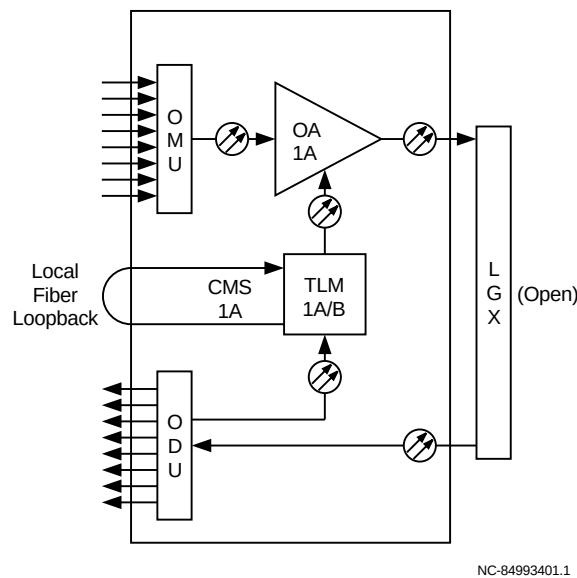
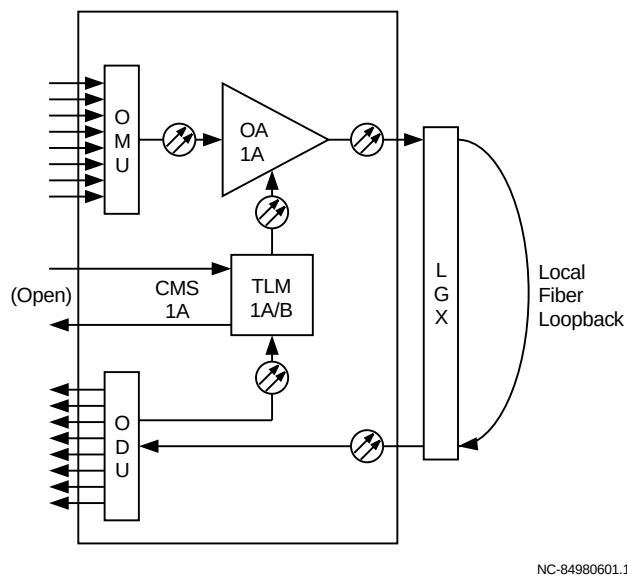
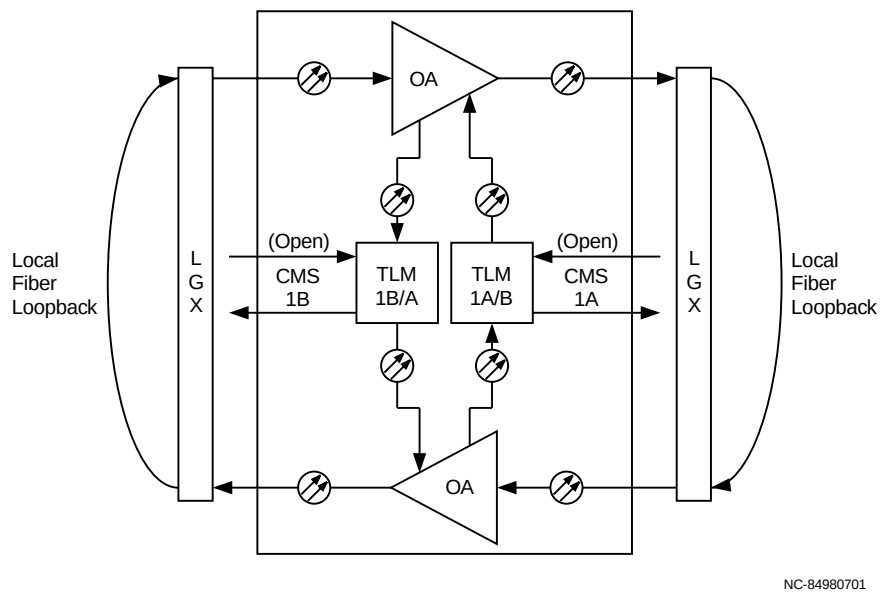

Figure 9-5. Local SUPR Self-Test (End Terminal with Two OA Circuit Packs)
Figure 9-6. Local SUPR Self-Test (End Terminal With a Single OA Circuit Pack)
Figure 9-7. Local SUPR Self-Test (Repeater)
- **SUPR:** The local (SUPR) test verifies the transmission path between the Telemetry Controller (TLM) circuit packs and the Optical Amplifier (OA) circuit packs at end terminals with two OA circuit packs (Figure 9-5), end terminals with a single OA circuit pack (Figure 9-6), and at repeaters (Figure 9-7).